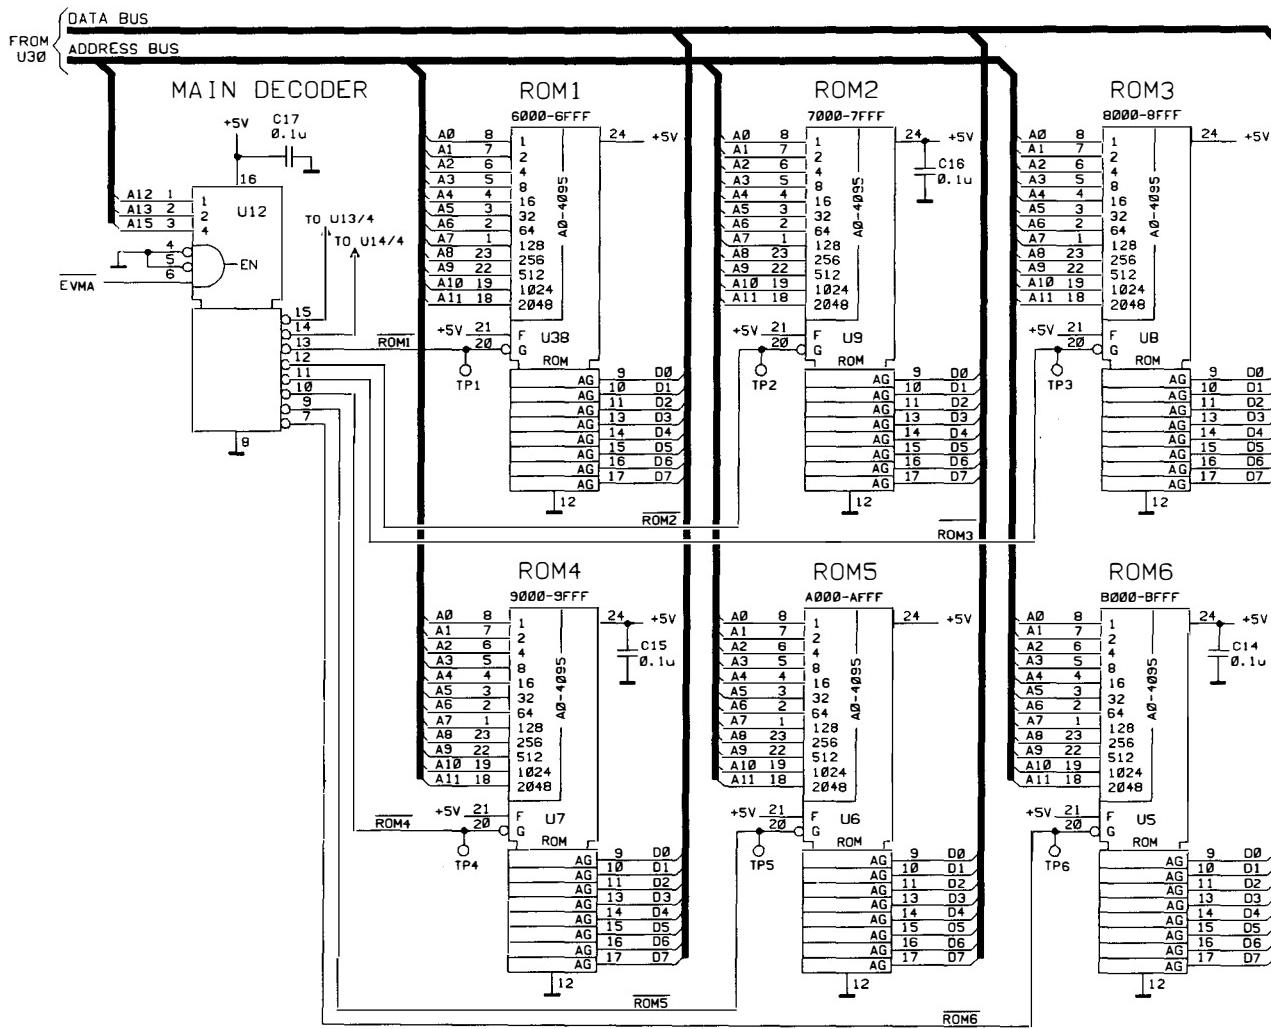

Figure B-5. 08116-66533: ROM schematic
3. Figure B-5 shows the change to Figure 10.7-5 for enabling five individual ROMS.